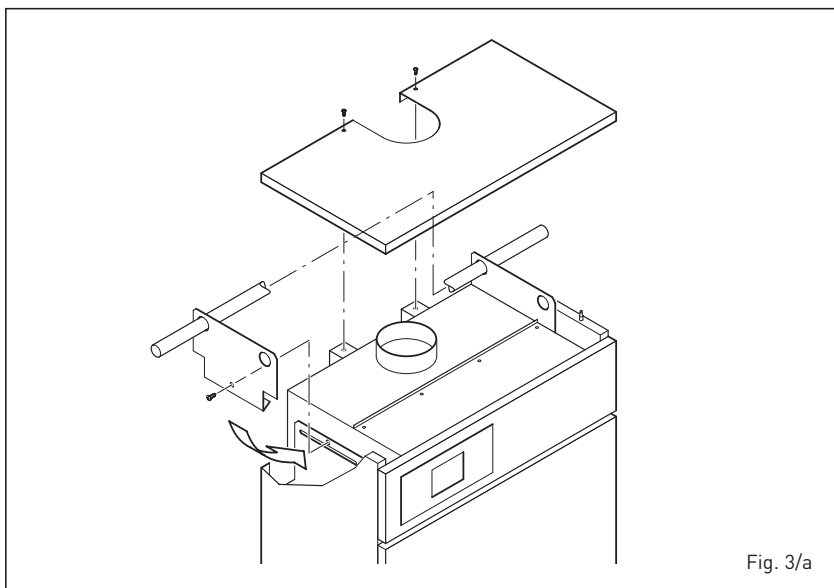

Fig. 3/a
2.1 BOILER ROOM (fig. 3)
The minimum height of the boiler room must comply with what is indicated in fig. 3 in relation to the overall thermal capacity.
2.1.1 Handling (fig. 3/a)
Once the boiler is in its place of installation and the packaging has been removed, proceed as follows if it must be moved (fig. 3/a):